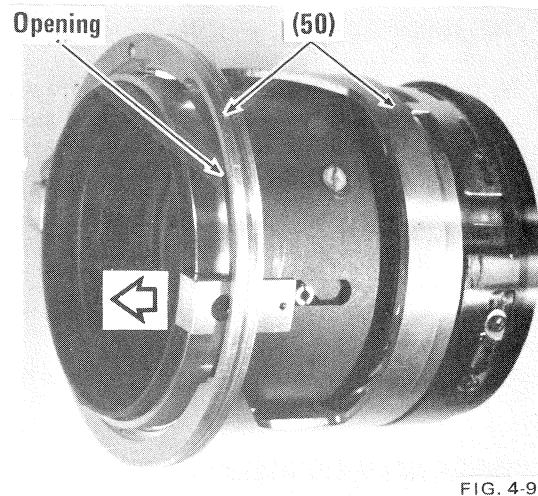

FIG. 4-9
- b) Pass bridge ring out through the opening of the middle helicoid (50) in the direction of the arrow. Fig. 4-9.